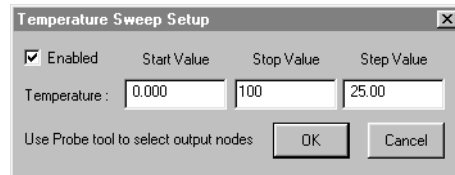
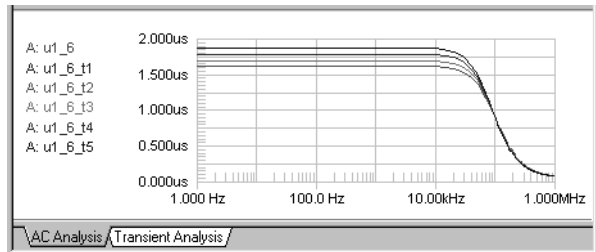

Figure 6.28. Use this dialog box to set up a Temperature Sweep Analysis.
Figure 6.29. Temperature Sweep Analysis waveforms.
- 2 Click **Temperature Sweep** to display the dialog box shown in Figure 6.28.
The waveform in Figure 6.29 was generated by simulating the Analog.ckt circuit using the values shown in Figure 6.28. Notice that the analysis sweeps the temperature of the circuit in specified steps, between the start and stop temperature values. The waveforms in this example represent the magnitude of the circuit output voltage (in db) for each temperature step. See *Using the Analysis Window* earlier in this chapter for more information about manipulating the waveforms.
For basic components like resistors, capacitors, and inductors, leave the **Device Parameter** field blank because there are no parameters besides the device value. Both device and lot tolerances are allowed, but only one or the other is required. CircuitMaker calculates device and lot tolerances independently (using different random numbers) and then adds them together. The example in Figure 6.29 has a device tolerance of 5% and a lot tolerance of 10%, and thus a total variation of up to 15%. In general, component values in the analysis vary independently, unless a tracking number is assigned. If you give two devices the same device tolerance tracking number and distribution, then the same random number is used for both devices when the device values for a simulation run are calculated. The same holds true for lot tolerances. However, device tracking and lot tracking are independent of each other. In other words, device tracking #1 and lot tracking #1 are unrelated.